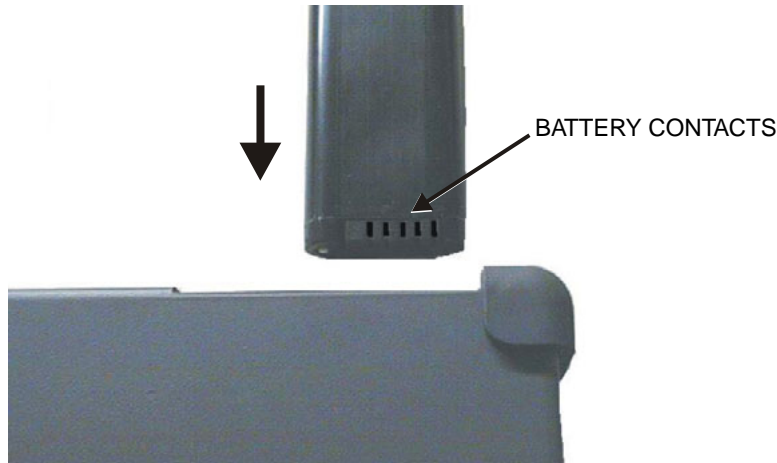

Figure 2-5. Battery Orientation/Contacts
5. Replacement is the opposite of removal. Note the orientation of the battery contacts, and be sure to insert the new battery with the contacts facing the rear of the unit, as illustrated in Figure 2-5.